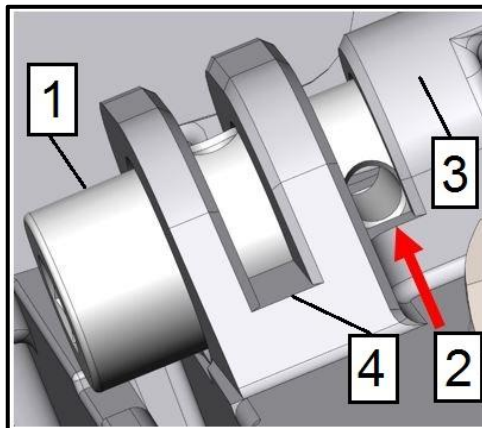

Fig. 31
4. Turn the adjusting screw (Pose 1, Figure 31) 90 degrees counterclockwise. Check that the adjacent holes in the adjusting screws (relative to the holes in paragraph 3) match the adjacent holes in the housing (relative to the holes in paragraph 3) (pos.3, Figure 31). This will reduce the tension of the chain enough to prevent premature stretching. According to paragraph 3, the first hole in motion and the first groove in motion.